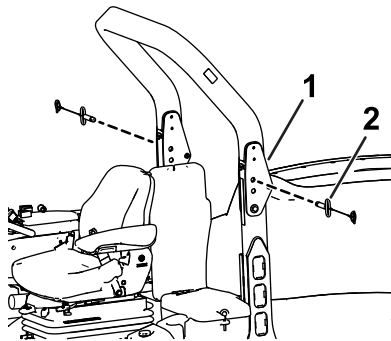

Figure 1
6. Remove the locking pins from both sides of the roll bar (Figure 1).